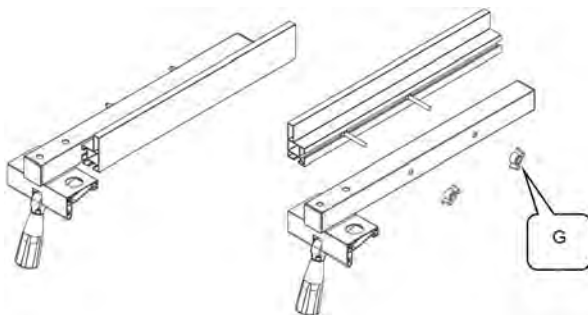

Fig. 65: Adjust rip fence
- Loosen the 2 screws (G, Fig. 65).
- Tighten the two screws (G, Fig. 65) again.